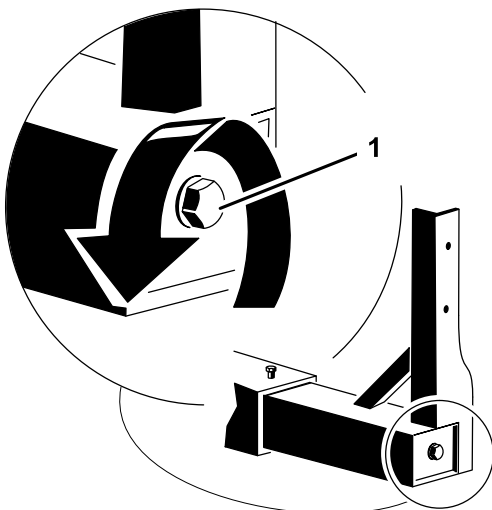

Figure 1
4. Loosen the boom frame bolts by no more than three revolutions (Figure 1).